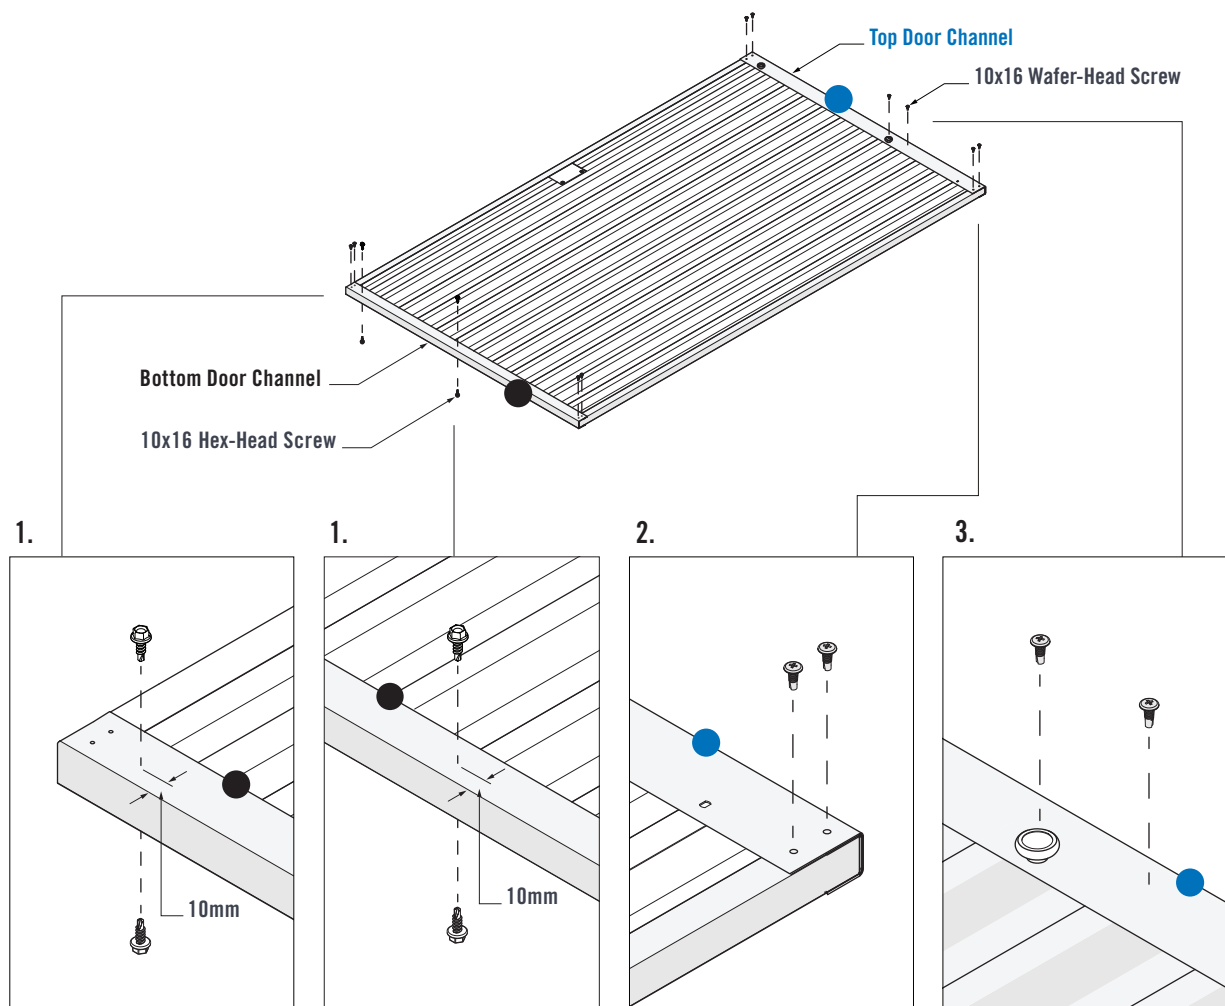

FIGURE 6.6
1. Fasten a 10x16 Hex-Head Screw into the mid-point of the Bottom Door Channel. Ensure the screw is fastened approximately 10mm from the bottom face of the Channel. Fasten a 10x16 Hex-Head Screw near the Handle Mount end of the Bottom Door Channel. Flip over the Door Assembly so that the underside is now facing up. Fasten two more 10x16 Hex-Head Screws in the same manner on the opposite side of the Bottom Door Channel (Figure 6.6).
2. Fasten two 10x16 Wafer-Head Screws through pilot holes in the Top and Bottom Door Channels and into the Vertical Door Channels at all four corners (Figure 6.6).
3. Fasten a 10x16 Wafer-Head Screw through the Top Door Channel and into the two Sheet Crests on both sides of the Door Wheel. (Figure 6.6).